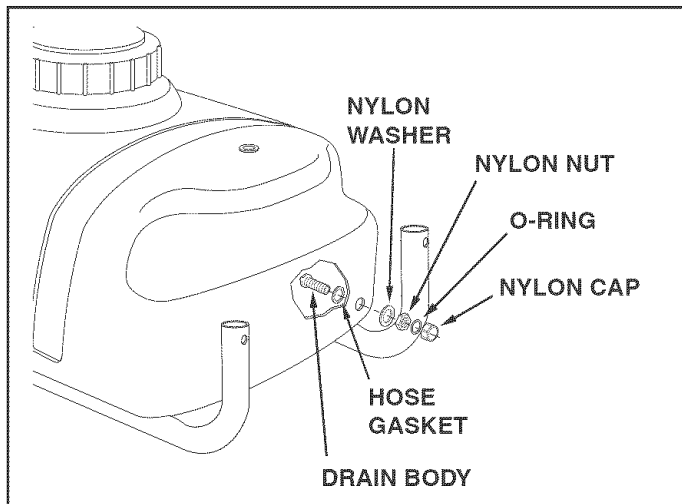

FIGURE 4
- Install the drain in the rear of the tank as shown in figure 4. Place a 3/4" garden hose gasket onto the drain body and insert the drain body out through the hole in rear of the tank. Outside the tank, assemble the nylon washer and then the nylon nut onto the drain body. Tighten the nut securely enough to prevent leaking, being careful not to damage the plastic parts. Place the O-ring inside the nylon cap and screw the cap onto the end of the drain body.